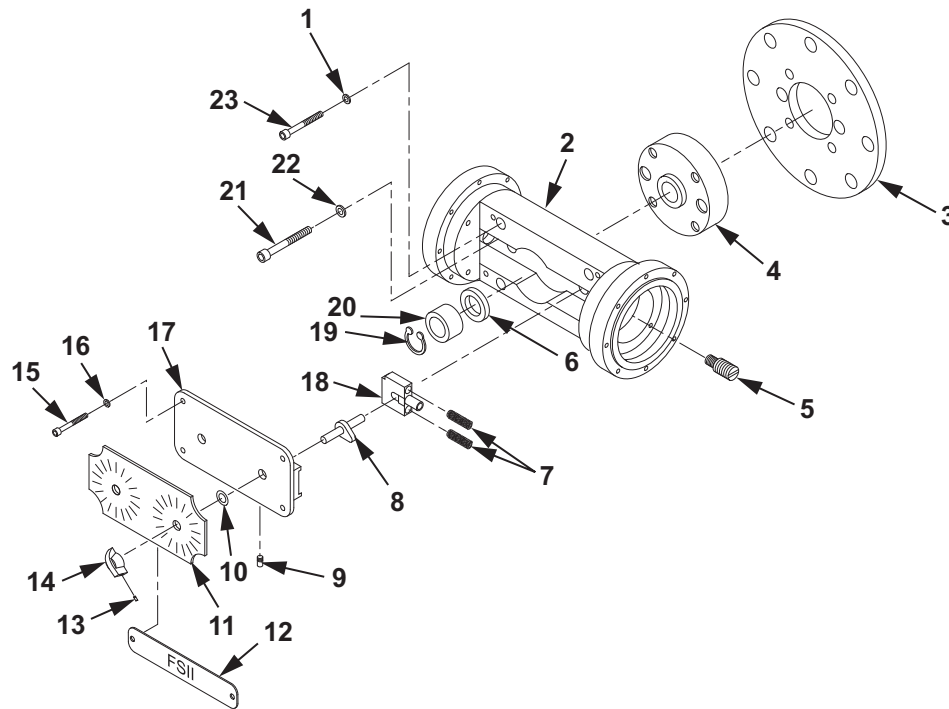

Figure 2. FSII Injection Pump Installation.
6. Apply antiseize compound to four screws (Figure 2, Item 23).
7. Install four new lockwashers (Figure 2, Item 1) and four screws (Figure 2, Item 23) through FSII injection pump assembly (Figure 2, Item 2) and bearing cap (Figure 2, Item 4) into end plate (Figure 2, Item 3). Tighten four screws (Figure 2, Item 23).
8. Install four springs (Figure 2, Item 7) and two crossheads (Figure 2, Item 18) in FSII injection pump assembly (Figure 2, Item 2).
9. Install two adapter screws (Figure 2, Item 5) on FSII injection pump assembly (Figure 2, Item 2).
10. Install stroke adjustment cams (Figure 2, Item 8) in cam guide cover (Figure 2, Item 17).
11. Install two new O-rings (Figure 2, Item 10) on cam guide cover (Figure 2, Item 17).
12. Install cam guide cover (Figure 2, Item 17) and stroke adjustment cams (Figure 2, Item 8) on FSII injection pump assembly (Figure 2, Item 2).
13. Position FSII indicator tag (Figure 2, Item 12) on cam guide cover (Figure 2, Item 17).
14. Apply antiseize compound to four screws (Figure 2, Item 15).
15. Install four new lockwashers (Figure 2, Item 16) and four screws (Figure 2, Item 15) to secure cam guide cover (Figure 2, Item 17) and FSII indicator tag (Figure 2, Item 12) on FSII injection pump assembly (Figure 2, Item 2).
16. Install stroke indicator (Figure 2, Item 11) on stroke adjustment cams (Figure 2, Item 8).
17. Position stroke adjustment knobs (Figure 2, Item 14) onto stroke adjustment cams (Figure 2, Item 8).
18. Tighten two setscrews (Figure 2, Item 13) on stroke adjustment knobs (Figure 2, Item 14).
19. Tighten stroke adjustment setscrews (Figure 2, Item 9) on bottom of FSII injection pump assembly (Figure 1, Item 2).